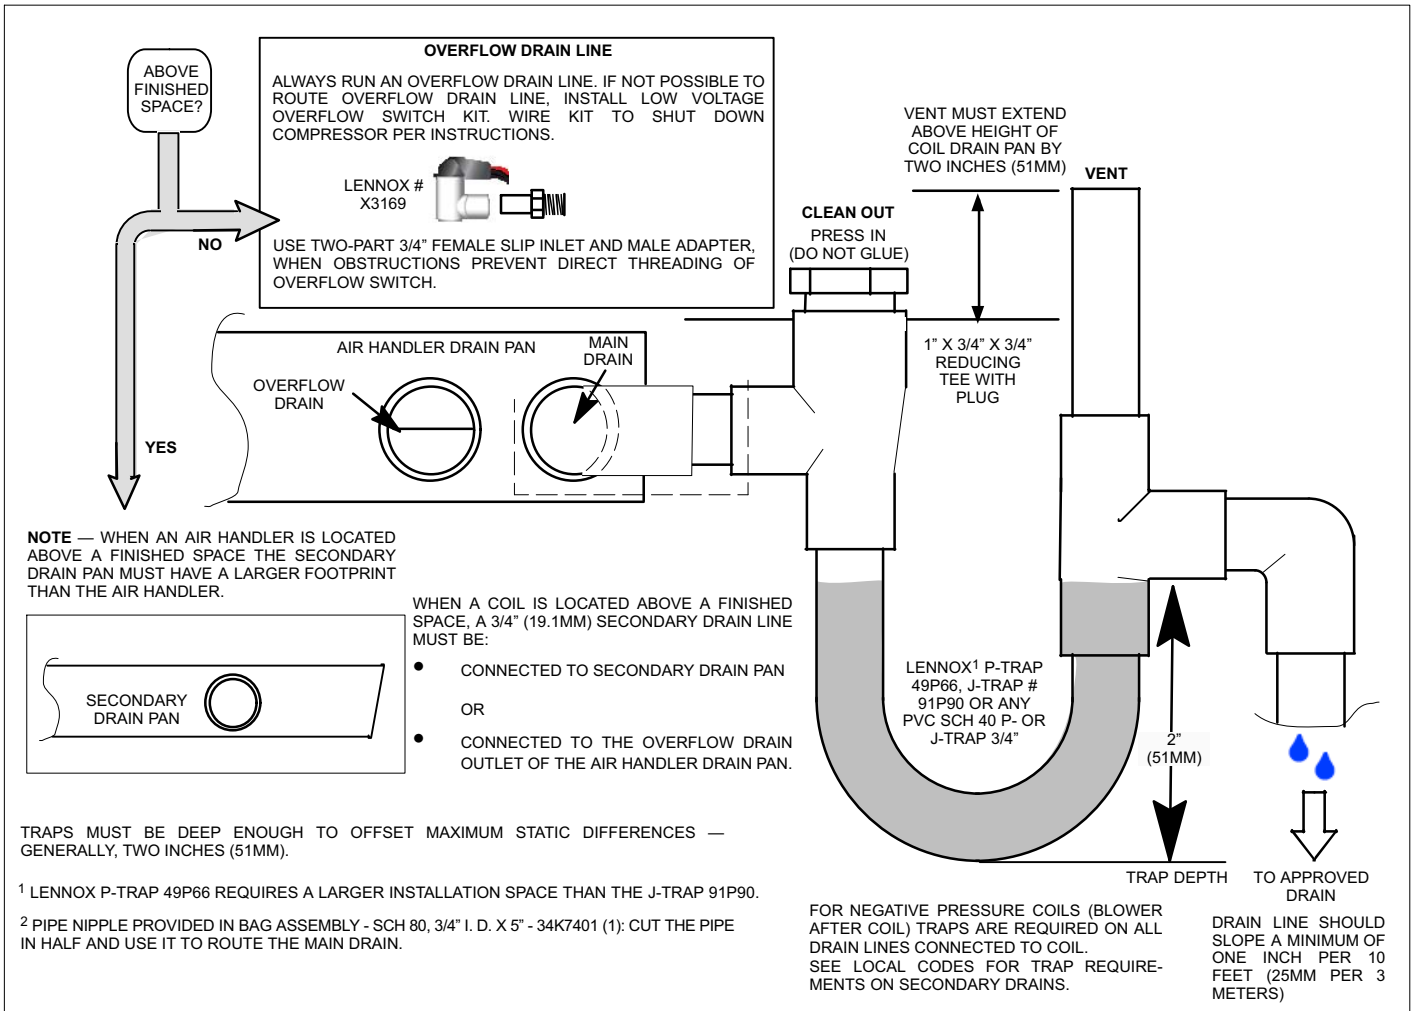

Figure 10. Typical Main and Overflow Drain
6. Install a 2" trap in the main (primary) drain lines as close to the unit as practical (see figure 10). Make sure the top of the trap is below the connection to the drain pan to allow complete drainage of the pan.
NOTE - Horizontal runs must have an anti-siphon air vent (standpipe) installed ahead of the horizontal run. See figure 10. An extremely long horizontal run may require an oversized drain line to eliminate air traps.